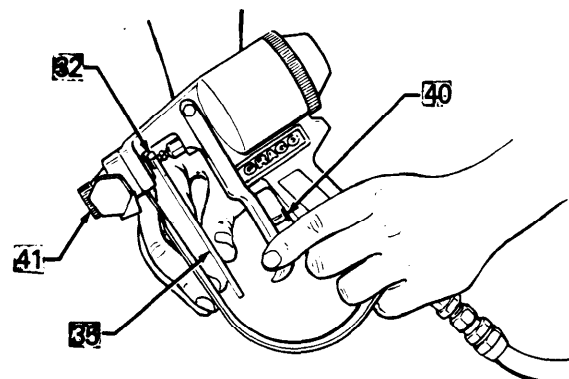

Fig 11
Be sure the trigger safety latch (40) is engaged (ON SAFE) before proceeding to reduce the risk of serious bodily injury from injection. Refer to Fig 11.